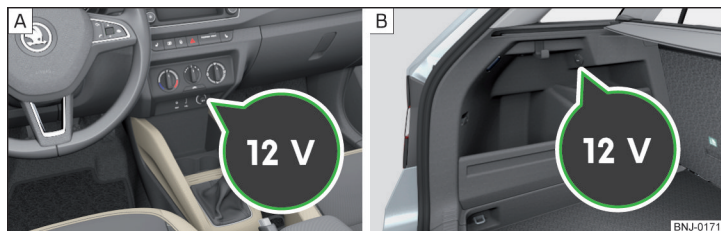

Fig. 73 12-volt power outlet cover: the middle part of the panel / in the luggage compartment
- > Touse, remove the cover of the socket» Fig. 73 - [A] or open the cover of the socket» Fig. 73 - [B].